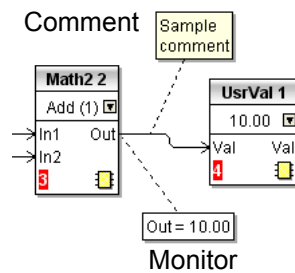

Figure 126 Comment and Monitor appearance
Comments can be linked to function blocks and wires by clicking on the chain icon at the bottom right-hand corner of the comment box and then clicking again on the required block or wire. A dashed line is drawn to the top of the block or to the selected wire segment (figure 126).
**NOTE:** Once the comment has been linked, the Chain icon disappears. It re-appears when the mouse cursor is hovered over the bottom right-hand corner of the comment box, see figure 126.